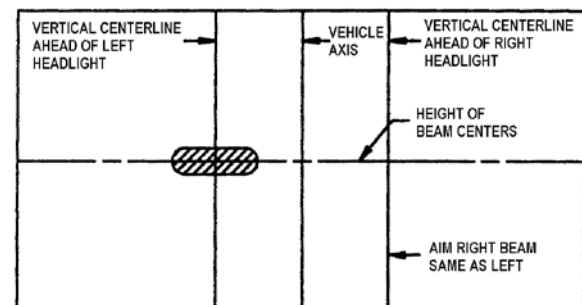

FIGURE 49: UPPER BEAM HIGH-INTENSITY ZONE PROPER LOCATION ON SCREEN
Aiming can be performed without opening headlight assembly. Horizontal and vertical aiming of each module is provided by two adjusting screws that pivot the module in the housing for proper alignment (Figure 49). There is no adjustment for focus since the module is set for proper focus during manufacturing assembly.
2. Remove the headlight screw fixing the headlight assembly, then tilt headlight assembly down (Figure 49).